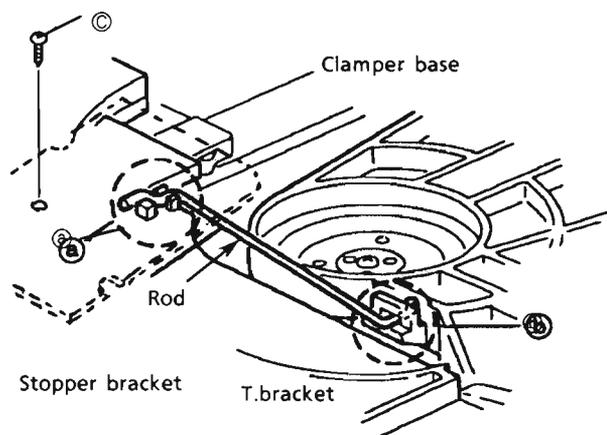

Fig. 27
2. Remove the screw ③ holding the stopper bracket.(See Fig.27) ---- (U.S.A only)
3. Remove the rod from both ends' hooks which are secured on T.Bracket ② and clamber base ④. [See Fig. 27]